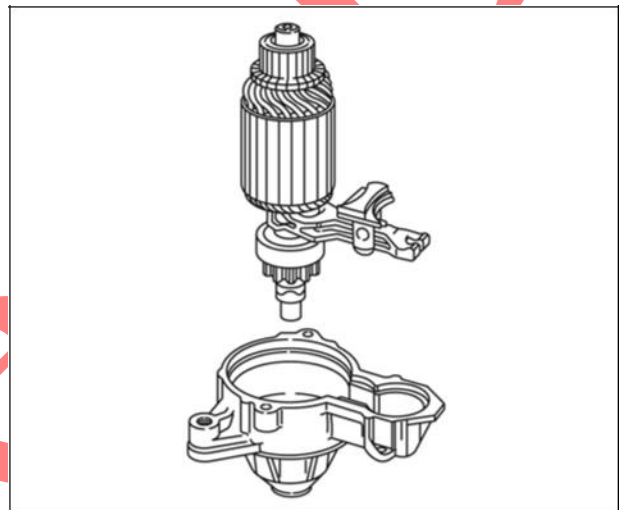

Figure 70
3. Install brush holder, inserting tabs on brush holder into slots in starter housing (Figure 70).